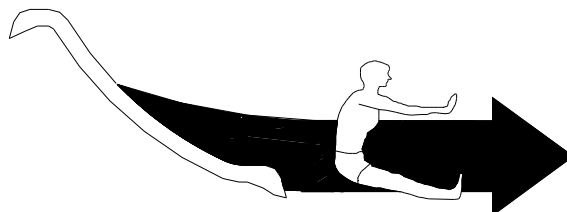

Figure 1
2. SLIDE FEET FIRST ONLY AS SHOWN IN FIGURE 1. **DO NOT SLIDE HEAD FIRST**
Slide users must use the sitting slide position, facing forward, feet first as shown in Figure 1.
All drawings in this Slide Owner's Manual (Figures 1 through 5) are for illustration purposes only and are NOT TO SCALE.